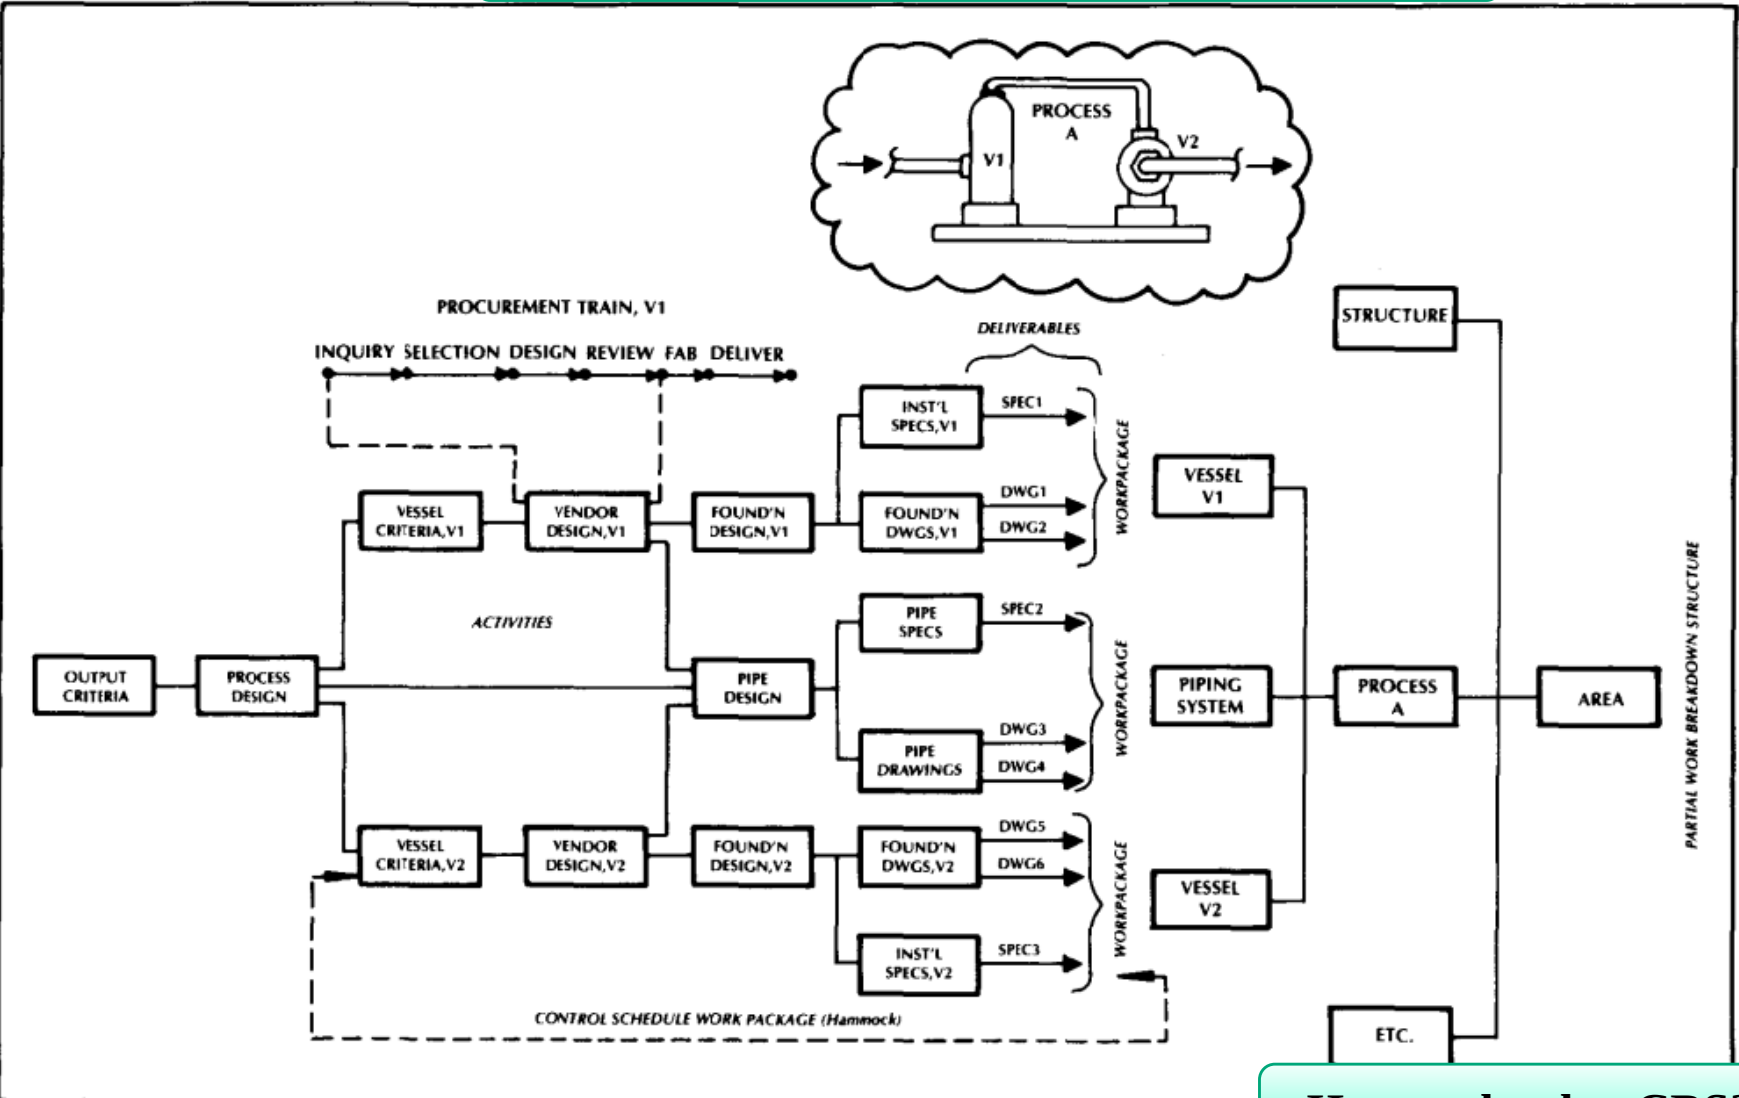

Figure 2. Example to Illustrate Logic and Use of Terms
- ☐ Figure 2 may prove helpful in **explaining** and **interrelating** these terms.